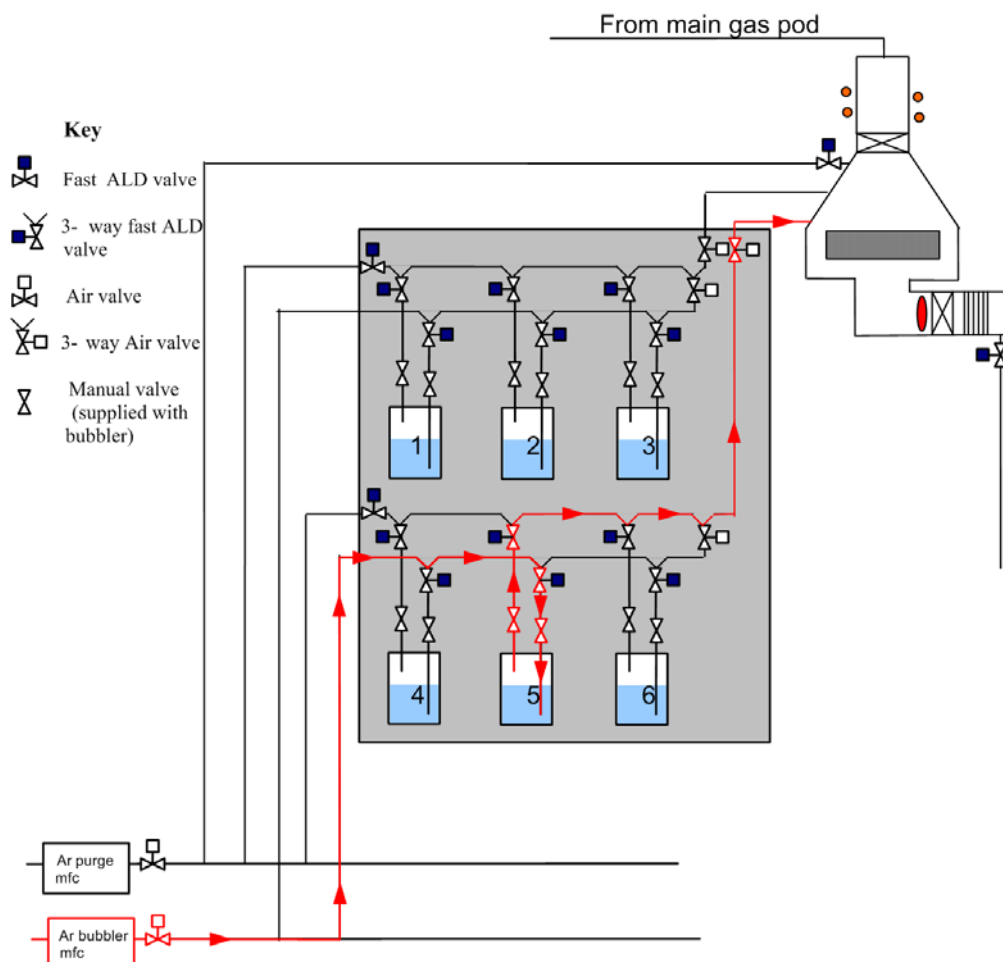

Figure 5-37 Schematic showing bubbling mode of operation
- Run the process with a flow of argon set on the argon bubbler MFC, and no flow on the argon purge MFC (see Figure 5-37).